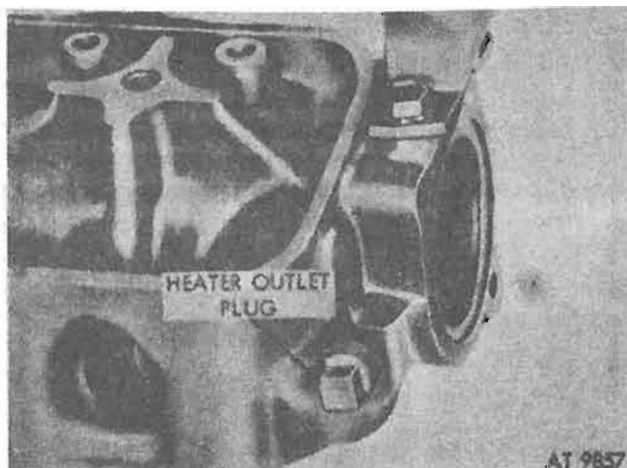

Figure 4-128. Heater outlet plug.
(3) *Heater outlet plug.* Check heater plug (fig. 4-128) for signs of leakage. Remove if necessary with a suitable wrench.
(1) *Heater outlet plug.* Apply water and oil-resistant sealer to heater plug thread and tighten firmly in cylinder head. Refer to figure 4-128.